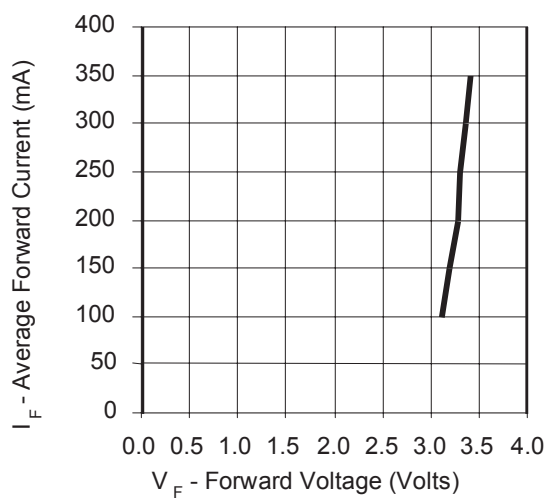

Figure 3a. Forward Current vs. Forward Voltage for White, Warm White, Green, Cyan, Blue, and Royal Blue.
2. Dynamic resistance is the inverse of the slope in linear forward voltage model for LEDs. See Figures 3a and 3b. Measured between $25^\circ\text{C} \leq T_J \leq 110^\circ\text{C}$ at $I_F = 350\text{mA}$.